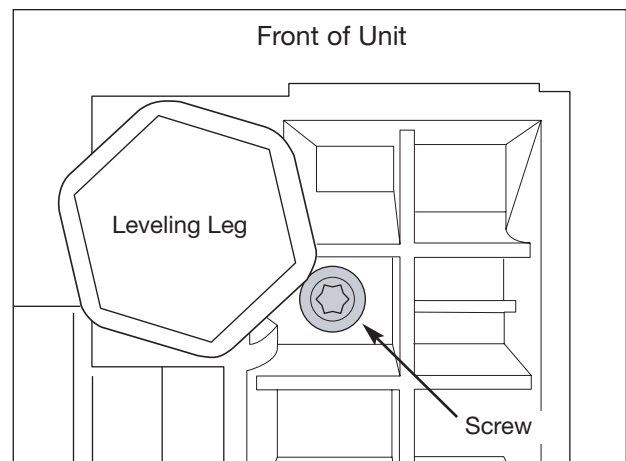

Figure 5-29. Leg and Hinge Assembly Removal Bottom Screw Location
10. Using a #20 Torx bit, extract the screw from the unit base securing the leg and hinge assembly to the unit frame. The leg and hinge assembly may now be pulled out from its installation position. (See Figure 5-29)